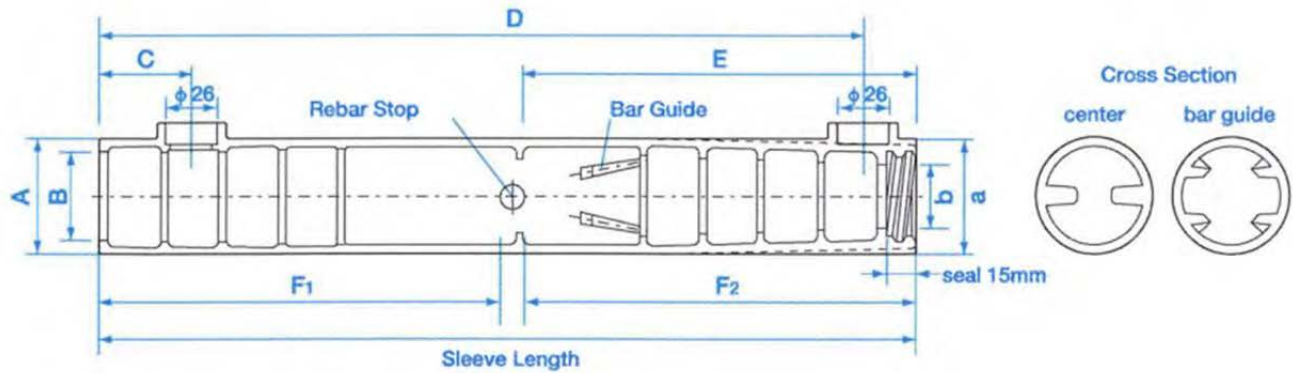

FIGURE 1—NMB SPLICE SLEEVE UX (SA) AND UX (SA) SD590
3.1 NMB Splice Sleeve® UX (SA) Connectors:
The Type UX (SA) NMB Splice-Sleeve connectors consist of straight and half-tapered steel cylinders. A Type UX (SA) NMB Splice-Sleeve has a narrow end and a wide end, and is used to splice two, equal-diameter, deformed steel reinforcing bars. The midsection of the interior of the sleeve is provided with a rebar stop that establishes the proper embedment of the reinforcing bars. The sleeves are iron castings manufactured in accordance with JIS G5502, Grade FCD700-2 [minimum yield and tensile strengths of 60,900 and 101,500 psi (420 and 700 MPa), respectively] for all sleeve sizes except 5UX (SA) and 6UX (SA), and Grade FCD450-10 [minimum yield and tensile strengths of 40,600 and 65,200 psi (280 and 450 MPa), respectively] for 5UX (SA) and 6UX (SA) sleeves. The NMB Splice-Sleeve UX (SA) connector configuration and dimensions, and the required rebar embedment lengths, are provided in Figure 1 and Tables 1 and 2.
and is used to splice two No. 9, Grade 80, deformed steel reinforcing bars. The NMB Splice-Sleeve 9UX (SA) SD590 connector configuration and dimensions, and the required rebar embedment lengths, are provided in Figure 1 and Tables 1 and 2.